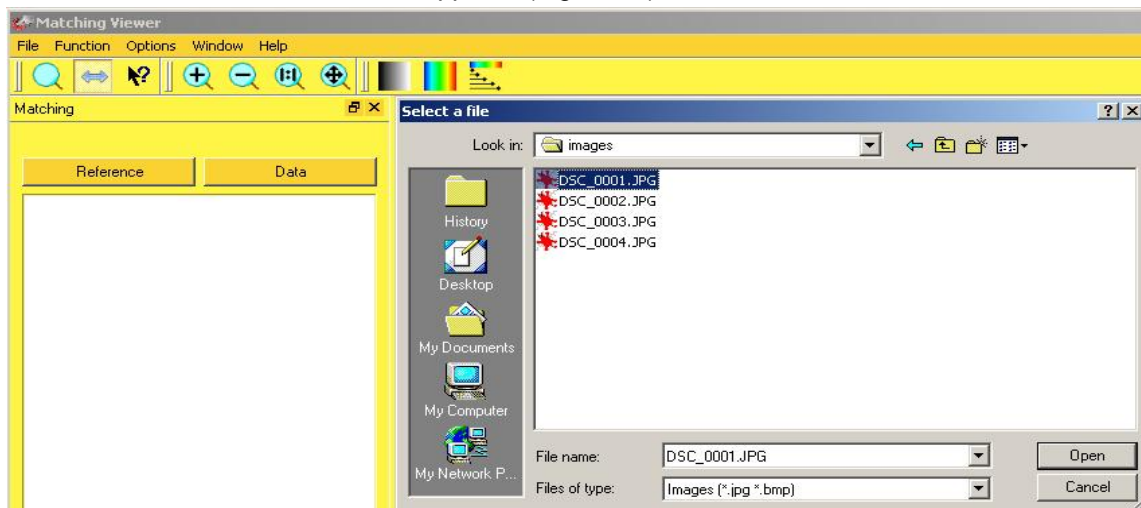

Figure 10: File selection window for source 2
| Figure 10: File selection window for source 2..... | 7 |
5. Click **Data**. A file selection window appears (Figure 10).